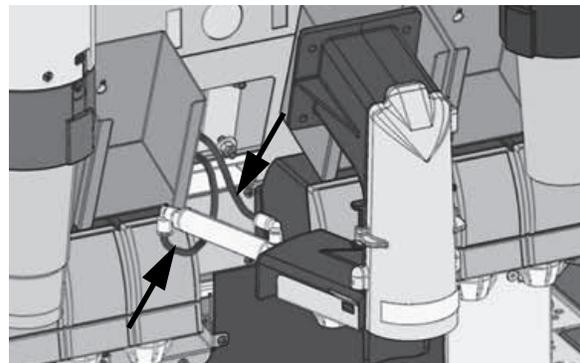

Figure 49.
6. Disconnect the tubes and remove the ice chute assembly as shown in Figure 49.